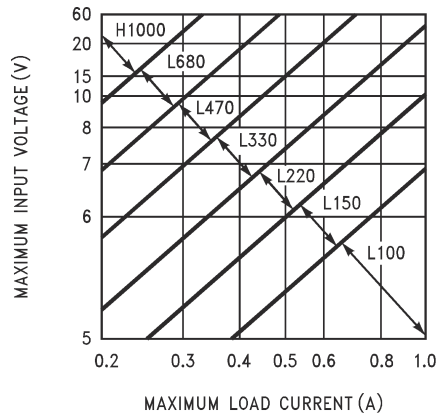
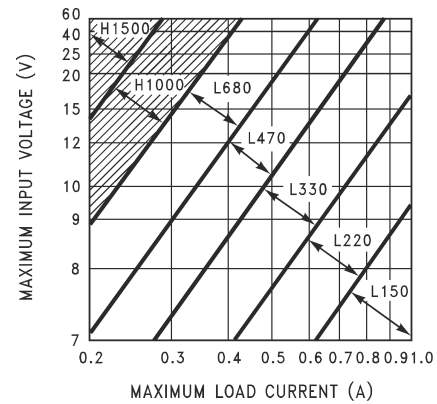
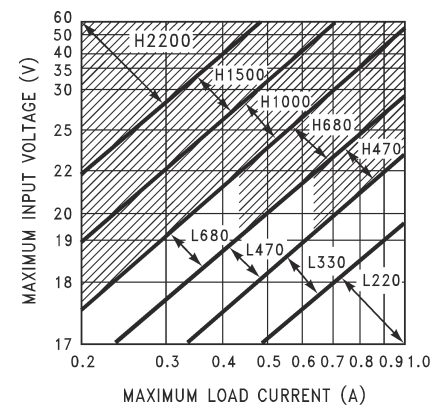

Figure 9-2. TL2575-33
Figure 9-3. TL2575-50
Figure 9-5. TL2575-15
1. Inductor Selection (L1) A. From Figure 9-2 through Figure 9-5 , select the appropriate inductor code based on the intersection of $V_{IN(\text{Max})}$ and $I_{LOAD(\text{Max})}$. B. The inductor chosen should be rated for operation at 52-kHz and have a current rating of at least $1.15 \times I_{LOAD(\text{Max})}$ to allow for the ripple current. The actual peak current in L1 (in normal operation) can be calculated as follows: $I_{L1(\text{pk})} = I_{LOAD(\text{Max})} + (V_{IN} - V_{OUT}) \times t_{on} / 2L1$ Where $t_{on} = V_{OUT} / V_{IN} \times (1 / f_{osc})$	1. Inductor Selection (L1) A. From Figure 9-3 (TL2575-05), the intersection of 20-V line and 1-A line gives an inductor code of L330. B. L330 $\rightarrow$ L1 = 330 μ H Choose from: 34042 (Schott) PE-52627 (Pulse Engineering) RL1952 (Renco)